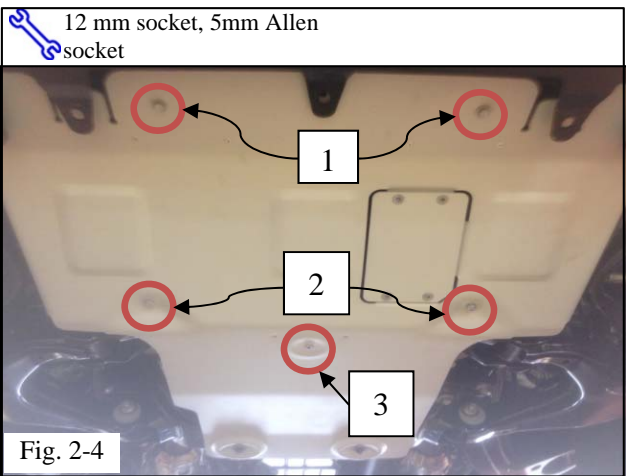

Fig. 2-4
- (e) Hand tighten the front, middle and center fasteners in the order shown (Fig. 2-4).